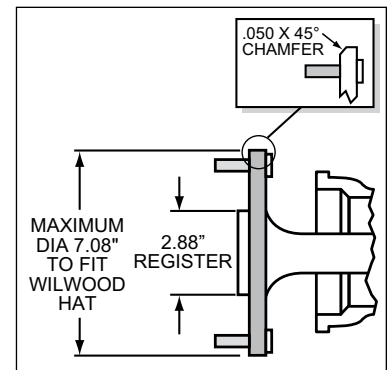

Figure 2. Axle Flange Maximum Dimension
- Axle center register diameter is 2.88", Figure 2. This kit uses Wilwood's removable center register adapters. Rotors can either be centered on the axle register, i.e. *register-centric* or centered on the wheel studs, i.e. *stud-centric*. Due to variations in wheel stud final diameters, *register-centric* centering can be a more accurate method of centering the rotor to the axle. Wilwood offers various diameter adapters for purchase in addition to the ones supplied in this kit, see Table 1.
- Maximum axle flange diameter must be no larger than 7.08" w/.050" x 45° chamfer, Figure 2.